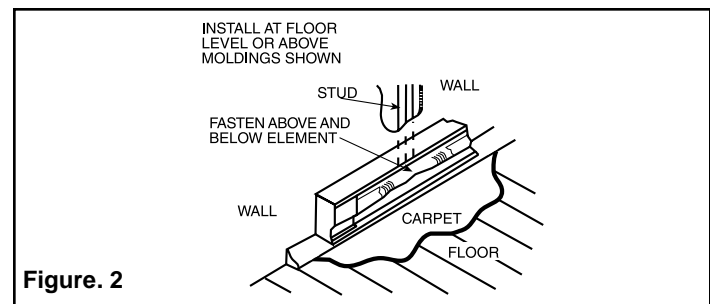

Figure. 2
1. Remove wiring compartment cover at end of heater where power supply cable is to enter. Determine desired mounting location (Figure 2), position heater to wall as intended and mark wall (or floor) at location where power supply is to enter heater.